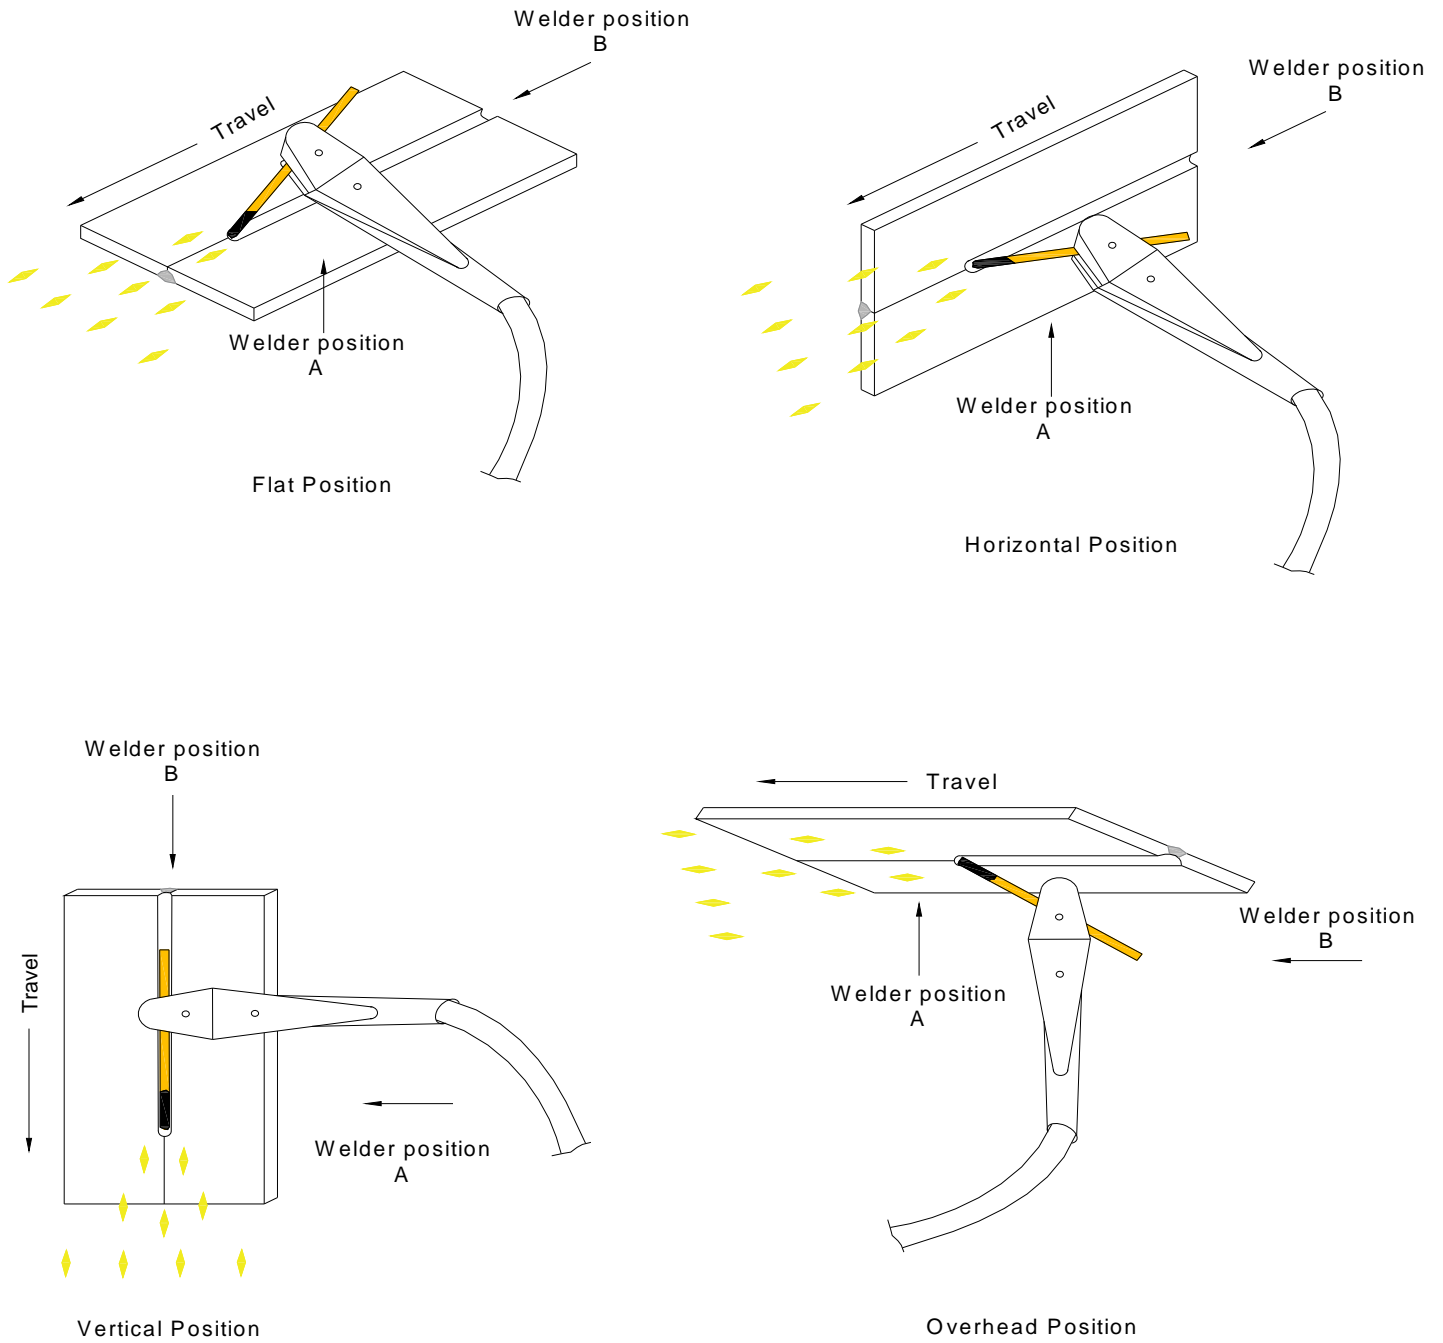

Figure 3.3 Gouging and Welder positions
- 3.5 A steady position, holding the torch with both hands, ensures a smooth gouged surface. See welder positions A and B in figure 3.3 below. At position B, the welder will see the line or weld fault disappear. At Welder position A, you will not see anything disappear but may help to start a straighter groove. A grinder can hide a line or crack.